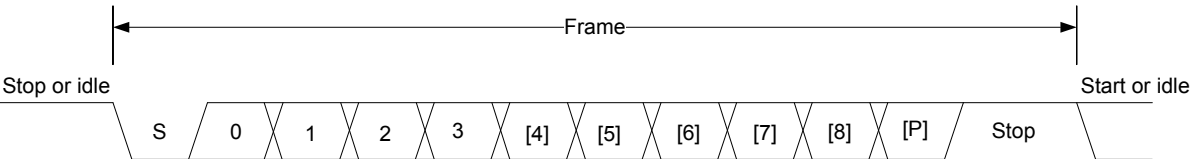

Figure 22.2. EUART Asynchronous Frame Format
The frame format used by the EUART consists of a set of data bits in addition to bits for synchronization and optionally a parity bit for error checking. A frame starts with one start-bit (S), where the line is driven low for one bit-period. This signals the start of a frame, and is used for synchronization. Following the start bit are 4 to 9 data bits and an optional parity bit. Finally, a number of stop-bits, where the line is driven high, end the frame. An example frame is shown in Figure 22.2 EUART Asynchronous Frame Format on page 628.